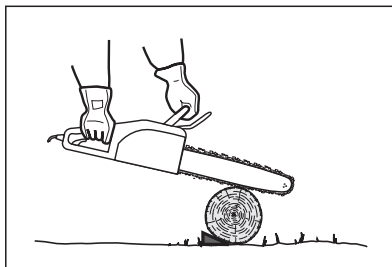

Fig. 12f
6. If the wood diameter is large enough for you to insert a soft bucking wedge without touching the chain, you should use the wedge to hold the cut open to prevent pinching (Fig. 12f).